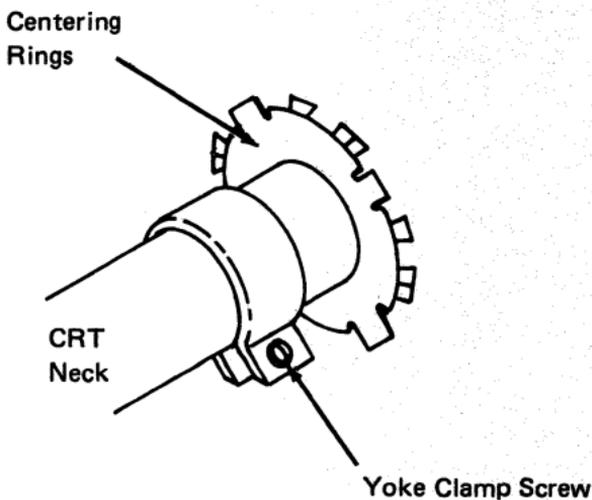

Figure 5-2. Yoke Adjustments
Disable vertical deflection by installing jumpers on the analog card test points (see Figure 4-6). Jumper test point A to C and C to B, or wrap a bare wire around all four pins. A single horizontal trace should be displayed. This trace should be parallel to, and vertically and horizontally centered on, line 1 on the alignment mask. If the trace is not parallel to line 1, the yoke must be aligned. If the trace is not centered the centering rings must be adjusted (see Figure 5-2). In either case, the CRT cone shield must be removed before the adjustment is made.
1. Loosen the yoke clamp screw (see Figure 5-2).
5.1.3 Centering and Horizontal Width. Turn the centering rings (see Figure 5-2) to center the horizontal trace, both vertically and horizontally, on line 1 of the alignment mask. The width (length of the horizontal trace) should be 266.7 mm (10.5 inches) as indicated by line 2 on the alignment mask. It may be necessary to adjust the width potentiometer, width (80), on the analog card (see Figure 4-6) together with the centering rings.